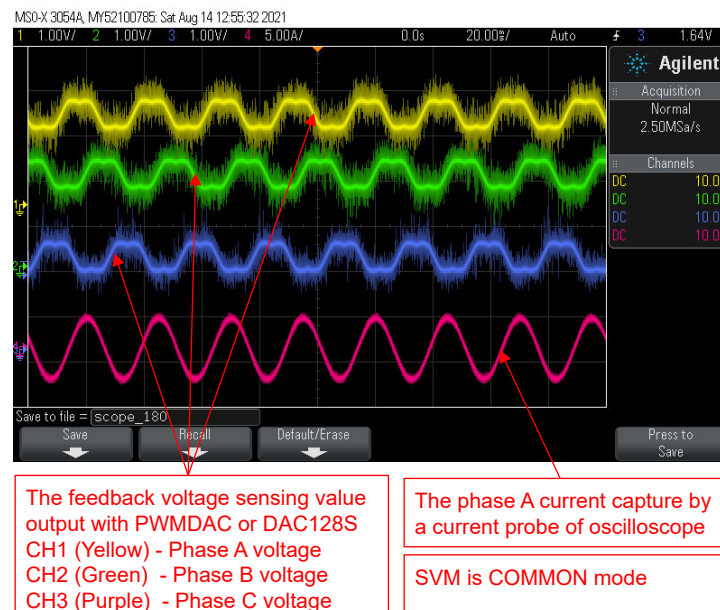

Figure 2-31. Build Level 2: Motor Phase Voltage Waveforms Using Common SVM Mode
- b. Configuring DAC128S module four inputs as the following codes. The sampling voltage waveform by using a DAC to output on oscilloscope should be the similar as shown in Figure 2-31 or Figure 2-32, that means the voltage sensing circuit is good for motor control.
Use DAC128S085EVM with an oscilloscope to monitor three phase sensing voltage of the motor, and use common mode SVPWM by setting *motorVars_M1.svmMode* equal to SVM_COM_C as shown in Figure 2-31.